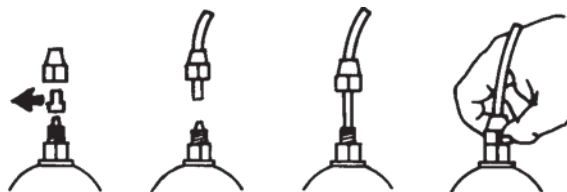

Fig. 7
E) Remove the protection caps from the two nipples, slide the hoses over the connectors, pushing them right home, and then fix them with appropriate tube nuts. (Fig. 7).